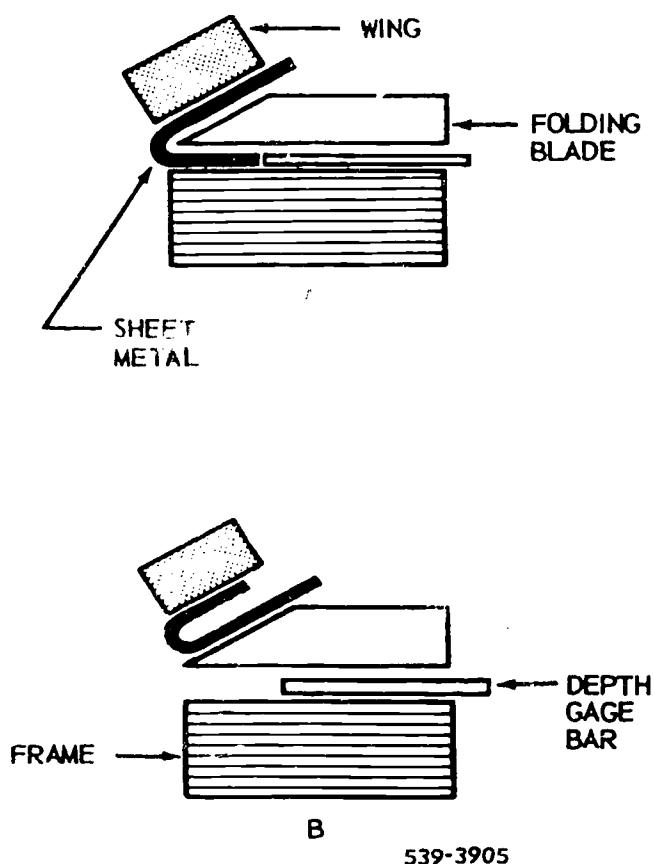

Figure 2-4. Making folded edges with a bar folder.
*Making a grooved seam with a bar folder.* Now that you can figure seam allowances, let's see how a grooved seam is made on a bar folder. (A cornice brake can also be used.) To make a 1/2-inch grooved seam, set the depth gage of the bar folder for 1/2 inch, as you learned in Volume 1 of this CTC. Place the edge of the metal between the wing and folding blade, and pull the wing forward and up to the position shown in step A of figure 2-4. After the wing is returned to the down position, take the metal out of the folder and turn it over. Pull the wing forward and up until the folded metal is bent 180°, as shown in step B. You use this same procedure for the other half of the seam. If you make a grooved seam on round duct or pipe, make the two 180° folds on opposite ends of the same piece of metal but bend them up at one end and down at the other.